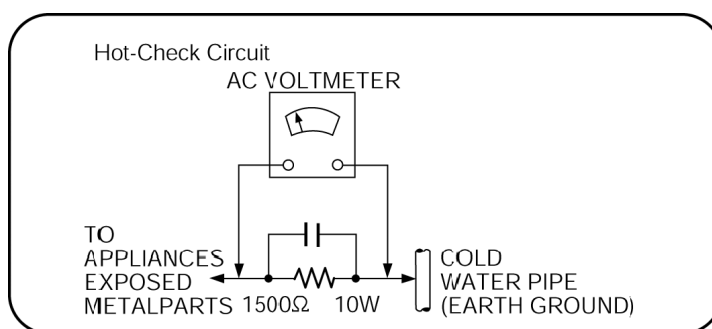

Figure 1
2. Connect a  $1.5k\Omega$ , 10 watts resistor, in parallel with a  $0.15\mu F$  capacitors, between each exposed metallic part on the set and a good earth ground such as a water pipe, as shown in **Figure 1**.